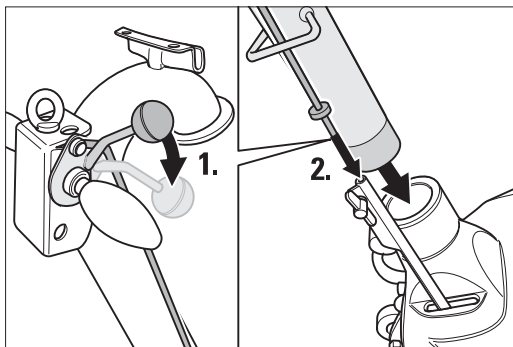

Fig. 2 When inserting the guide tube, make sure that the rod linkage of the lowering mechanism feeds in correctly!
- 2 Press the lowering lever downwards, insert the guide tube into the opening in the housing and at the same time place the top part of the lowering rod linkage into the bottom part of the rod linkage in the machine housing (Fig. 2).